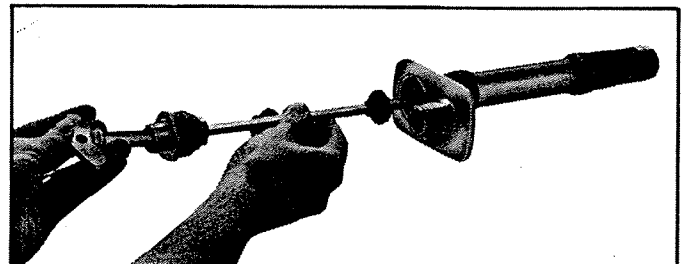

FIGURE 4
B. Use pliers. Firmly grip Cap Retainer (8) and turn counterclockwise to remove it, then remove Deflector Cap (7). *Shut off hydrant as tight as possible with Control Key (1) and use an adjustable open-end wrench or channel-lock type pliers to "break" Draw Nut (11) loose, then remove it with Control Key (1), turning counterclockwise until threads are free from Hydrant Head (12). Grasp Draw Nut (11) firmly and pull toward you to remove Actuator (2) and Actuator Rod (3). A vacuum is created between Shuttle (4) and backflow preventer Valve (10) making a firm grip and pull necessary to accomplish this step. Some agitation while pulling will be helpful. See Figure 4.*